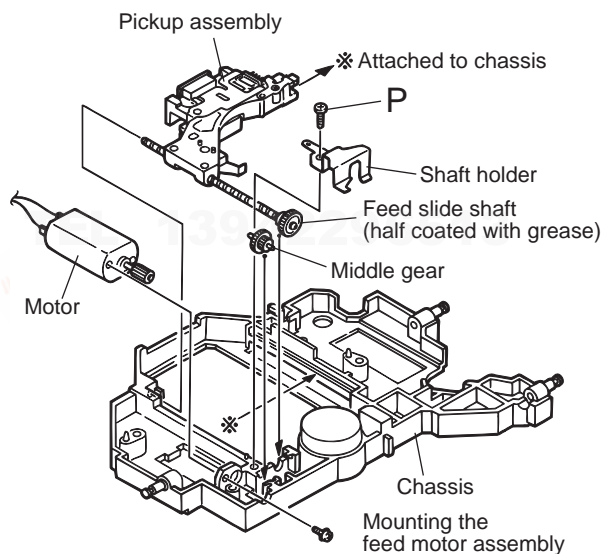

Fig.19
3.2.13.1 Mounting the traverse mechanism (See Fig.19 to 23)